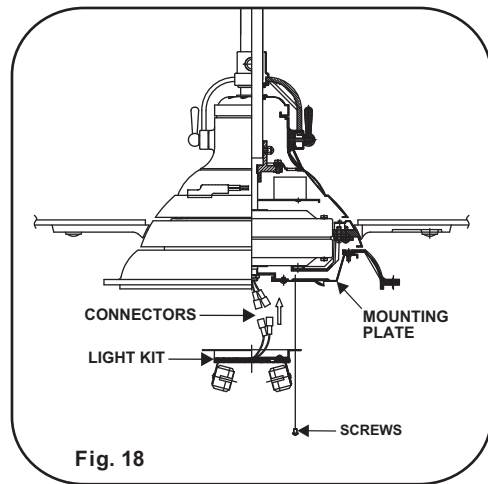

Fig. 18
Step 1. Raise and hold the light kit close to the mounting plate and proceed to do the wire connections. Connect the white wire connectors from the light kit and fan, follow the same procedure with the black wire connector from the fan and the black wire connector from the light kit. (Fig. 18)
Step 1. Carefully tuck all wire connections back into the light kit, then install the light kit onto the mounting plate with 3 screws provided. Be sure to tighten all screws. (Fig. 18)